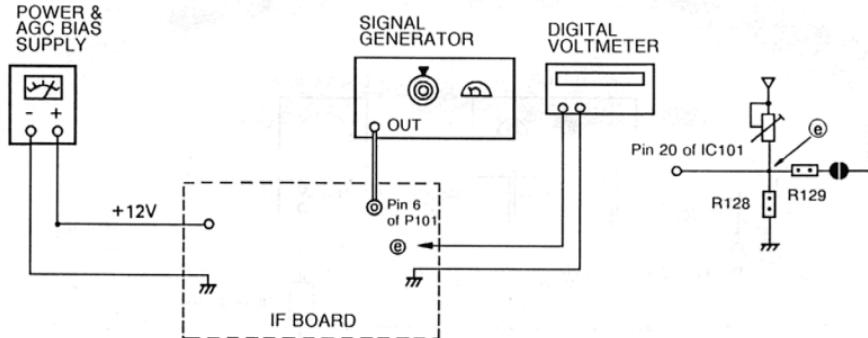

Figure 12. AFC Alignment
- GENERAL ..... Refer to figure 12 for test equipment connection.
3. Supply +12 volts to the IF Board. (See figure 12.)
- DVM ..... Connect to the resistor R128 (@ in figure 12) and ground.